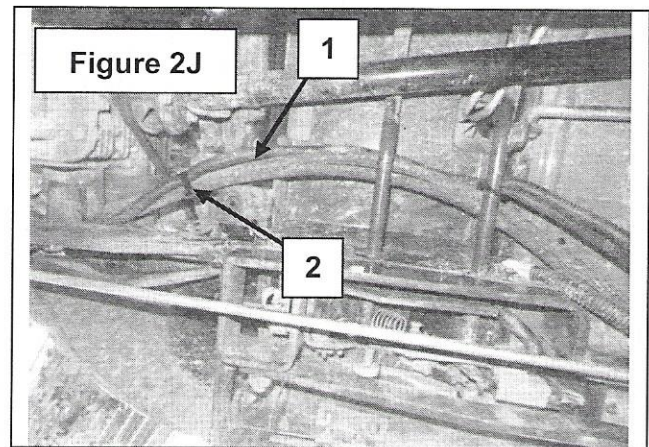
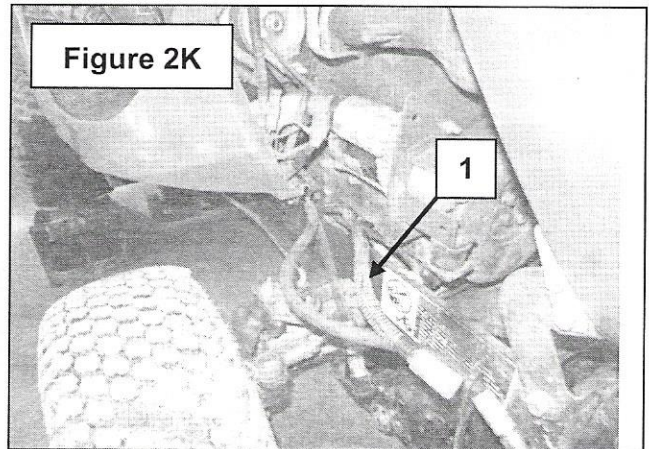

Figure 2J
Figure 2K
13. **Figures 2J-2K:** Run the part of the harness with the connector (item 1) along the 2 hydraulic hoses and make it exit on the front right side of the tractor (see figure 2K).
15. **Figures 2J-2M:** Secure the wiring harness (item 1) with two ties wraps (item 2) as shown on the figures.